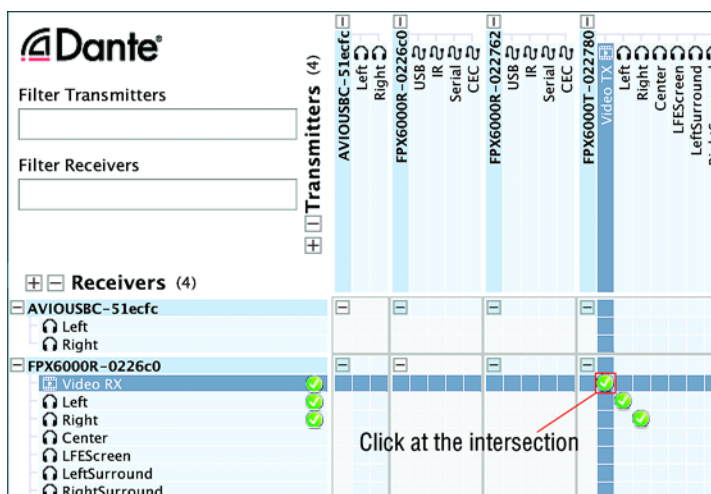

Figure 15. Displaying FPX6000R signal receiving capabilities
5. Locate the FPX6000R in the receive channel on the left-hand side of the Dante Controller, then click the “+” sign next to the Unit Name to display the receiver’s signal receiving capabilities (see **figure 15**).
6. Click at the intersection of the two units (see **figure 15** on page 17) to create a video  subscription, an audio  subscription, or both.